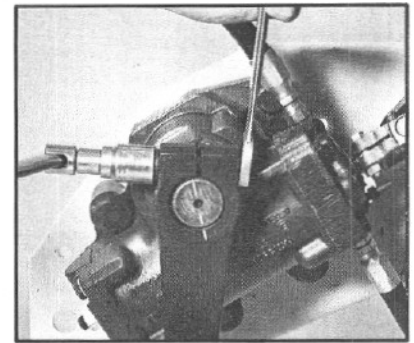

Figure 4
- 1.1 If you detect a leak in the trunnion cover area, on many HFB64 installations you can remove the trunnion cover with the gear on the vehicle to gain access to the sector shaft seal package. First, remove the pitman arm clamp bolts and then the pitman arm (FIGS. 4 and 5).